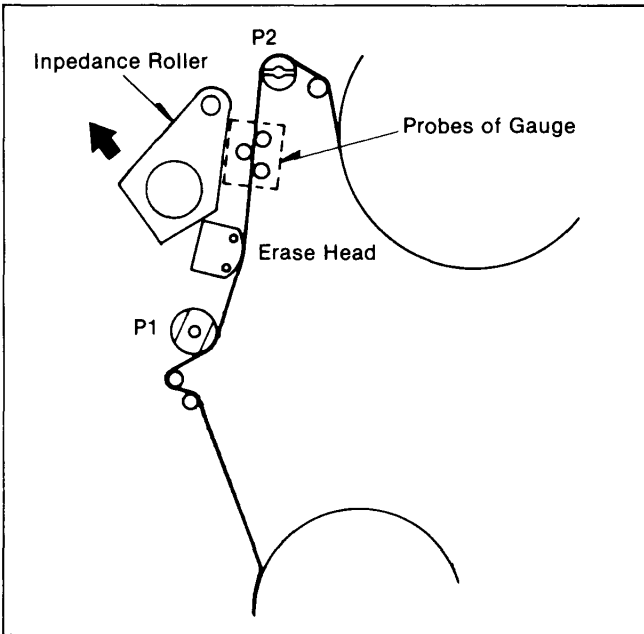

Figure M28 Measurement of Back Tension
2. Pull the Impedance Roller in the direction indicated the arrow in Figure M28 secure it with a piece of adhesive tape.
2. Pull the Impedance Roller in the direction indicated by the arrow in Figure M28 secure it with a piece of adhesive tape.